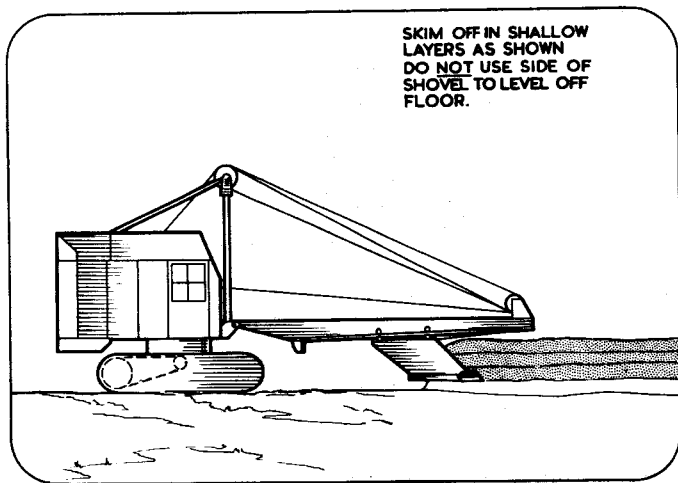

Fig. 23. Skimming.
3. Take the cut down in layers across the entire surface of the work, so that there is always adequate clearance for the digging rope and the boom point machinery. (See Fig. 23).